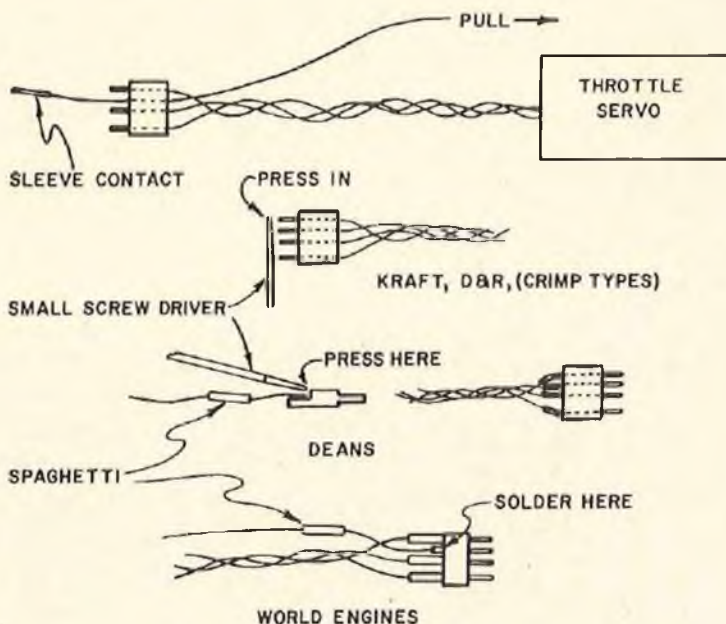

FIGURE 2
(5) Remove the servo case bottom. Note that there are two *insulated* terminals on the motor which have leads connected coming from the servo amplifier. One of these will be used to obtain feedback for the governor. (Refer to Figure 2.) If your system uses Multi-Con type plugs such as Kraft or similar types, check to see if there are 4 pins in it. The unused one must be removed. This can be done by inserting the end of a small pin or straightened paper clip into the